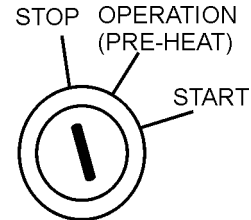

**Figure 54. Ignition (Switch Normal)**
3. Place the ignition switch (Figure 54) in the “**STOP**” position, remove the key and store in a safe place.